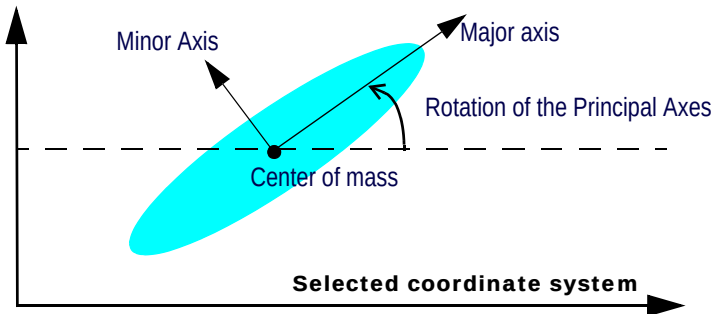

Figure 312 Rotation of the Principal Axes
moment of inertia is smallest. Conversely, the minor axis (Y) is the axis about which the moment of inertia of the blob is the greatest. See Figure 312.
The rotation of the Principal Axes reference system is the counterclockwise angle between the X-axis of a selected coordinate system and the major axis. See Figure 312.